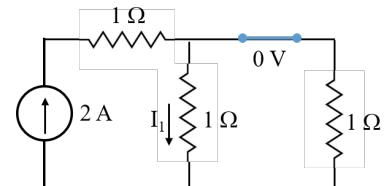

Figure 52: Circuit of Example 4 with all sources, except the 2A current source, set to zero.
Step 1: Keep the 2A current source and set other source to zero (Figure 52). The circuit becomes a single source circuit. Find current I_1 using any method that you have learnt.